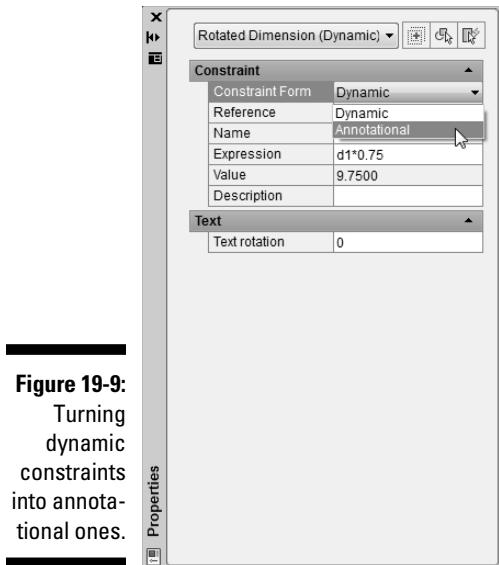

Figure 19-9:
3. **Click in the Constraint Form field and in the drop-down list, change Dynamic to Annotational (see Figure 19-9).**